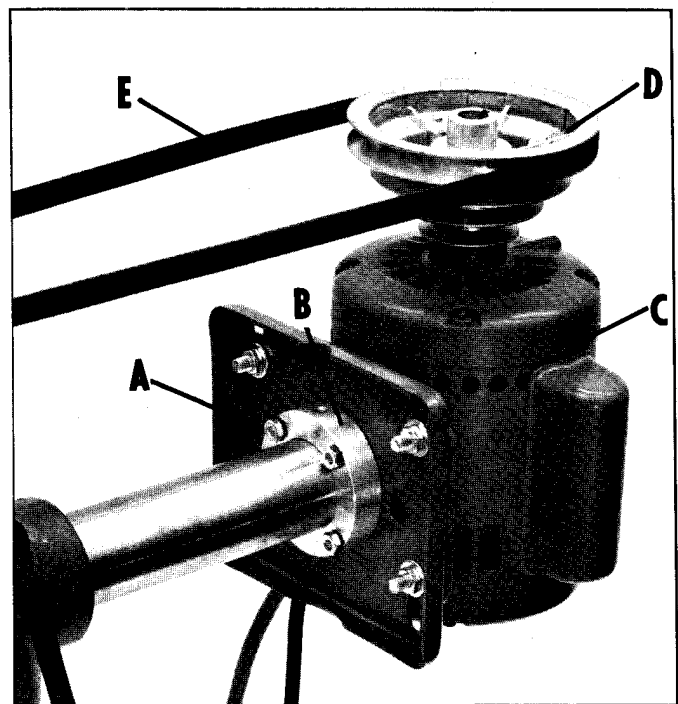

Fig. 5
1. Assemble the motor plate (A) to the back end of the horizontal column, as shown in Fig. 5, and fasten in place with set screw (B).
2. Make sure the motor is DISCONNECTED from the power source and assemble the motor (C) to the motor plate (A), as shown in Fig. 5, using the four hex head screws, eight flat washers, eight shake proof lockwashers and four nuts supplied.
4. Assemble the motor pulley (D) Fig. 5, to the motor shaft and assemble the V-belt (E) to the motor pulley and spindle pulley.